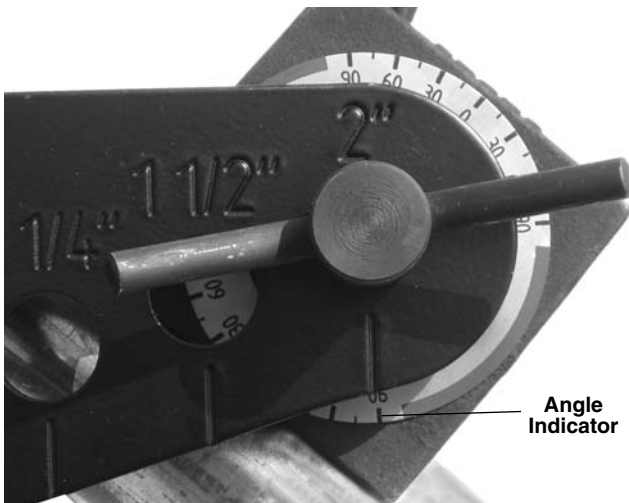

Figure 15 – Angle Indicator – End of Bend
3. Continue to advance the ram and bend the pipe. As the pipe is bent, the ends will move. Stay clear of the moving pipe. Monitor the angle indicators (Figure 15). The average of the angles measured by each angle indicator equals the approximate total angle bent.